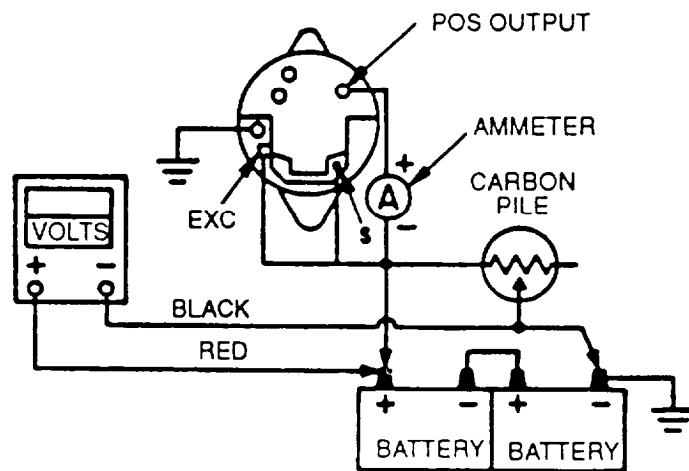

Figure 4-9. Performance Test Circuit
- (2) Set up test circuit as shown in Figure 4-9